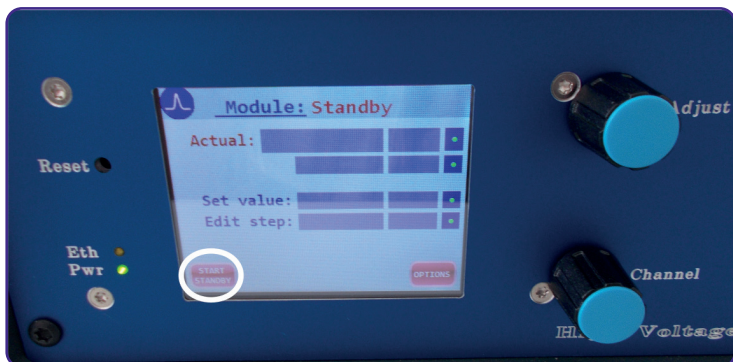

Figure 2: Standby mode.
After switching on the device (1), the display (4) shows the “Surface Concept” animated logo, while the device is scanning for available modules and their specific settings. This can take up to several seconds. If the device is ready for operation, it switches into the standby mode and shows an empty mask for the voltage adjustment (see **Figure 2**).